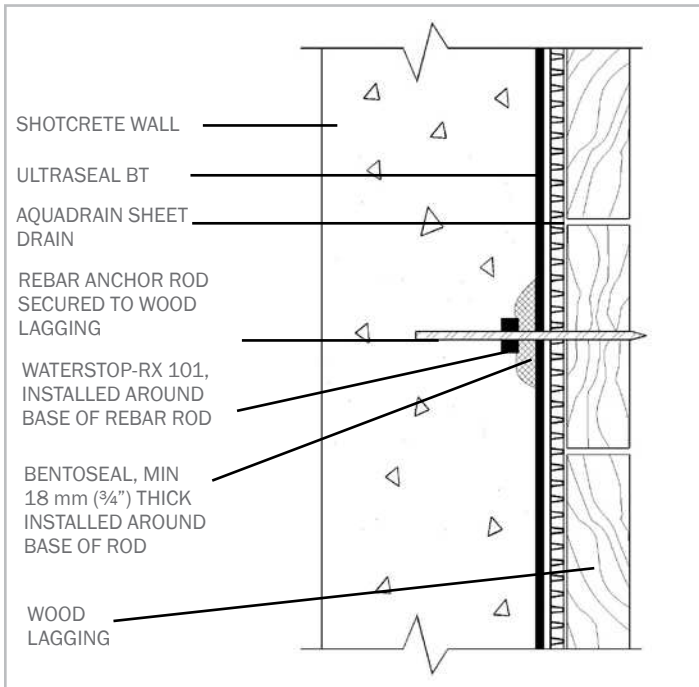

Figure NH4-6: REBAR ANCHORAGE
**Rebar Anchorage:** Install BENTOSEAL ¾" (18 mm) thick around outward end of all rebar anchorage penetrating ULTRASEAL BT. Then install a length of WATERSTOP-RX around the shaft of the rebar anchorage (Figure NH4-6) securing it with plastic zip tie or rebar wire.